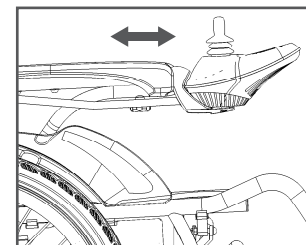

Figure 13
- Adjustment of controller: sit on the electric wheelchair, loosen the torx bolt, push the fixing rod of the controller backwards and forwards to the proper position and lock the torx bolt, see Figure 13. (The adjustment method is same if the controller is installed on the left side)